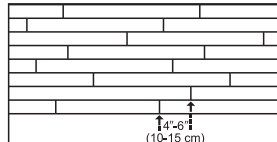

Figure 17
- Check for a tight fit between all edges and ends of each plank. End-joints of adjacent rows should be staggered 4'-6" (10-15 cm) when possible, to ensure a more favorable overall appearance (Figure 17).